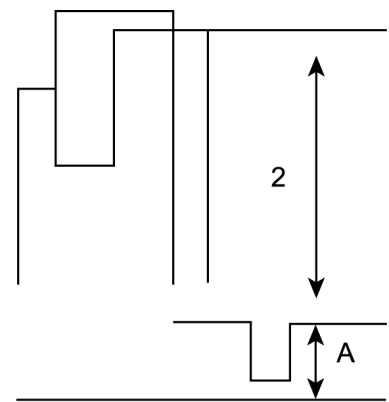

Fig. 5
3. Connect oscilloscope probe to TPL 1 (R OUT) with $10k\Omega$ series resistor and confirm waveform as in Fig. 5 is (2) $2.50 \pm 0.4V$.